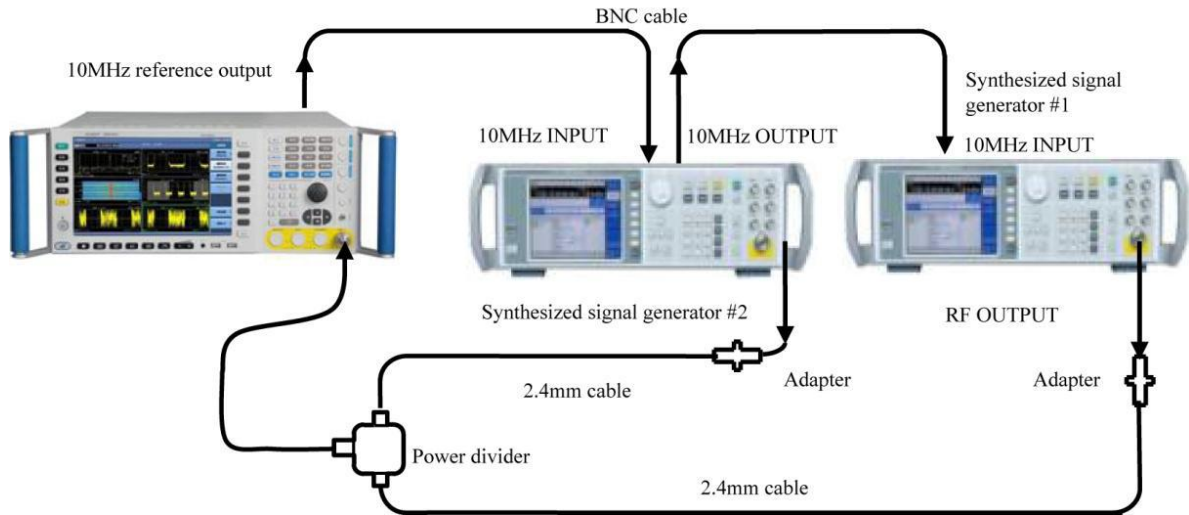

Fig. 8.5 Schematic diagram of frequency span accuracy test
- 1) Connect the instrument as shown in Fig. 8.5, reset the 4051 analyzer and set it with the frequency reference provided by two synthesized signal generators.